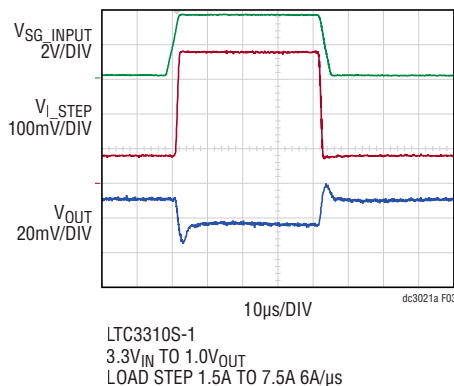

Figure 1. Load Transient Response Measurement
8. Measure the I\_STEP voltage to observe the current,  $V_{I\_STEP}/50\text{m}\Omega$ . Adjust the amplitude of the pulse to provide the desired transient. Adjust the rising and falling edge of the pulse to provide the desired ramp rate using Equation 2. The Load Transient Response Measurement (Figure 1) shows a load step from 1.5A ( $R_L = 0.62\Omega$ ) to 7.5A.